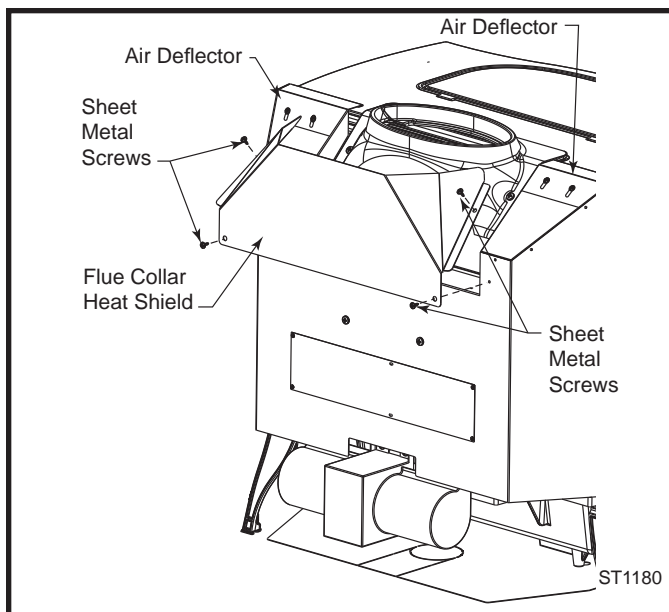

Fig. 17 Install flue collar heat shield.
If you have the optional fan kit, you may decide to adjust the air deflector to blow heat across the top of your stove. (Fig. 17) Loosen the two (2) screws on each side and raise or lower the deflector. After adjustment, tighten the screws.
WARNING: The flue collar heat shield must be attached to the Defiant stove. Use four #10 sheet metal screws supplied to secure the flue collar heat shield to the rear of the stove. (Fig. 17)